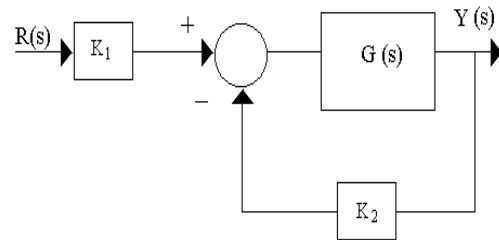

Fig. 1
- Q.27** In the system of Fig.1, sensitivity of $M(s) = Y(s)/R(s)$ with respect to parameter K_1 is
- (A) $\frac{1}{1 + K_1 K_2}$